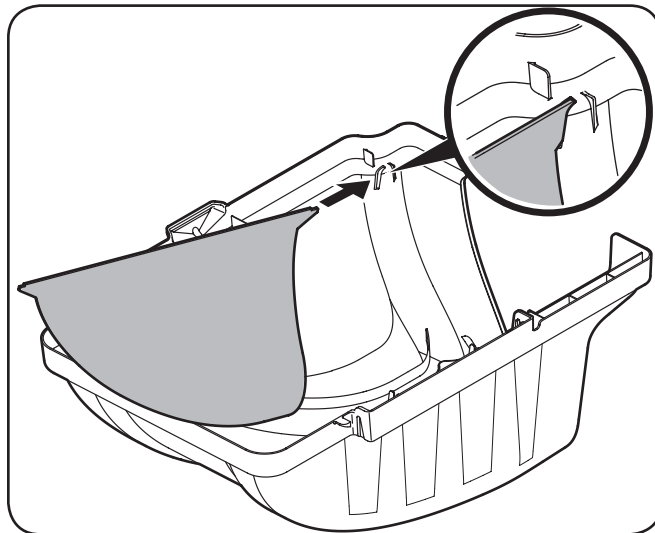
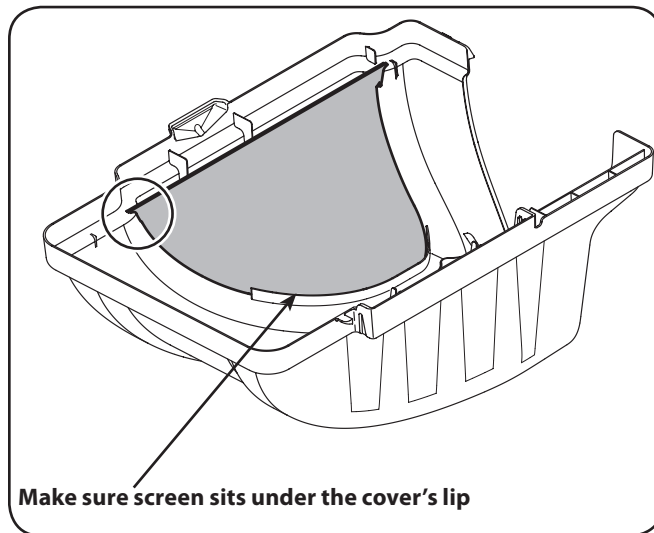

Figure 4-7
Figure 4-8
9. **If not already installed by the factory,** install the bagger screen into the bagger cover by first inserting one end into the corresponding cutout mounting hole, as in Figure 4-7. Make sure to feed the screen under the lip, as in Figure 4-8.
10. Clip in the other side of the screen by flexing the screen and pushing it down into the other corresponding cutout hole. See Figure 4-8.